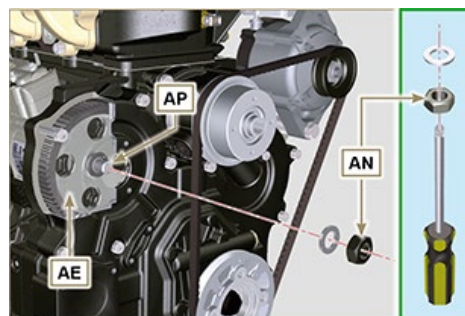

Fig. 6.17
3. Ensure that the correct advance value has remained unchanged, tighten nut **AN** on shaft **AP** (as shown in **Fig. 6.17**, is allowed the aid of a screwdriver to guide the nut **AN** on the shaft **AP** in order to avoid the fall of it into the timing cover **AQ** - tightening torque at **70 Nm**).